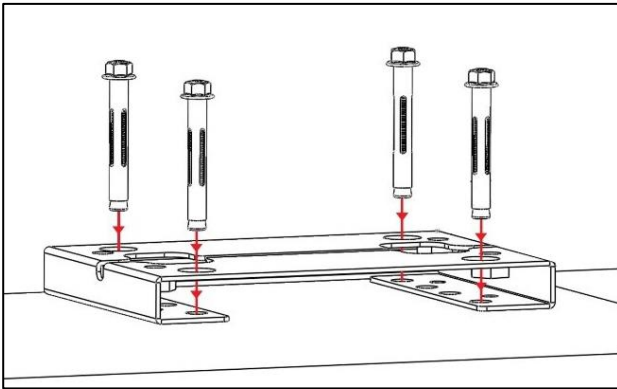

Fig 8
- Fit motor mounting plate back into place and fit and tighten anchor bolts (as per figures 8 and 9).